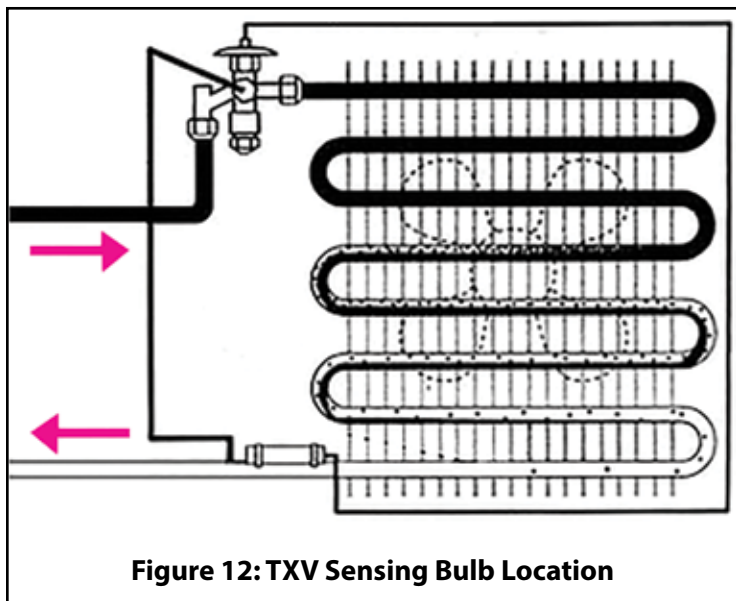

Figure 12: TXV Sensing Bulb Location
1. Install the TXV bulb on the suction line just outside the air handler cabinet (See Figure 12) using the two bulb clamps furnished with kit.